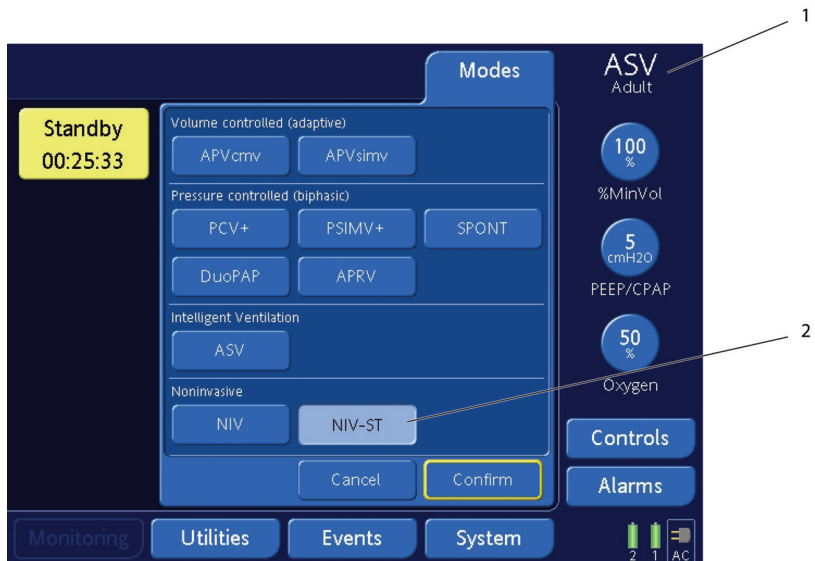

Figure 4-4. Modes window
1. Open the **Modes** window (Figure 4-4).